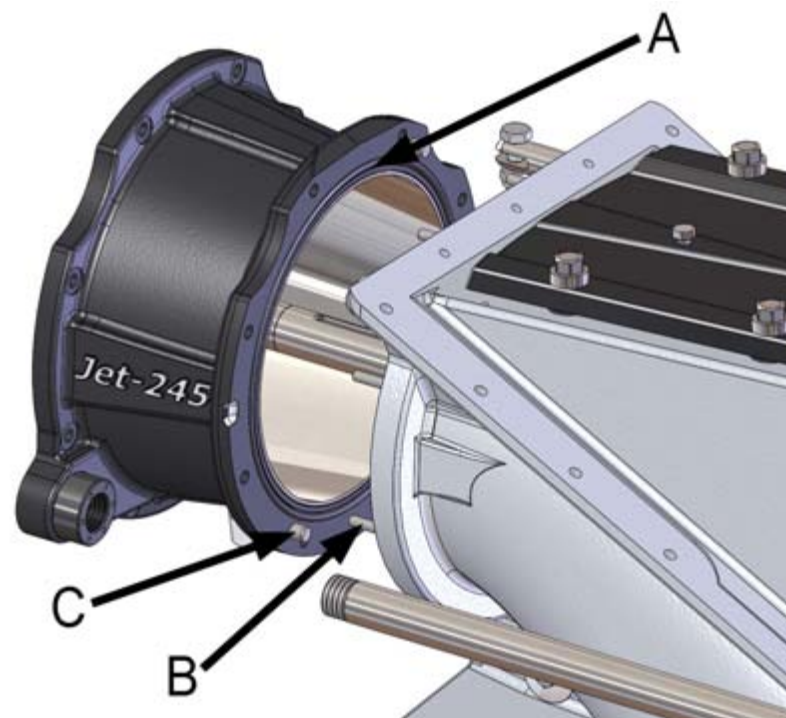

Figure 53. Installing the impeller tunnel
1. Ensure that the o-ring between the impeller tunnel and frame is in place. Apply waterproof petroleum jelly onto the connecting surface (such as Shell Gadus S2 V220AC or similar) (figure 53, point A).
2. Ensure that the set screws (8 pcs) are in their correct places in the frame. If they have come loose, they must be reinstalled with thread locking compound (such as Loctite 242) (figure 53, point B).
3. Ensure that the dowel pins of the impeller tunnel are in place (figure 53, point C).